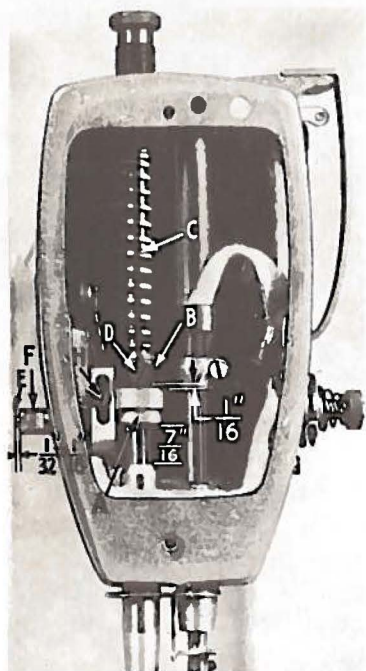

Fig. 16A
The presser bar connection (A, Fig. 16A) should be set so that it is about  $\frac{7}{16}$  inch above the lower presser bar bushing (Fig. 16A). This is accomplished by tipping the machine back against the rest pin, loosening the lock nut (A, Fig. 15) and relocating the stop screw (B) on the lifter lever bell crank (C). By turning the stop screw to the right or left, the proper setting of the presser bar connection is accomplished. Tighten the lock nut (A) to lock the stop screw in place.
When locating the presser bar guide (B, Fig. 16A), the presser foot must rest directly against the throat plate with the feed dog in its lowest position. The guide is set properly when there is a  $\frac{1}{16}$  inch space between guide (B) and presser bar connection (A, Fig. 16A).
2. Solenoid plunger pin (E, Fig. 16A) must touch tension release pin and the end of solenoid plunger pin must protrude a minimum of  $\frac{1}{32}$  inch to a maximum of  $\frac{1}{16}$  inch. If adjustment is required move tension post assembly in or out by loosening set screw located under machine arm and moving stop screw (B, Fig. 18A) as required.
3. Tension release solenoid is secured to flat of bushing (F, Fig. 16A) with a set screw in bracket. Solenoid plunger pin (E) is to have approximately .005 inch clearance between it and the tension release pin without thread in the tension disc.
4. The manual tension release cam (G, Fig. 16A) should be set so that it will not release thread tension when the presser foot is raised for back tacking.